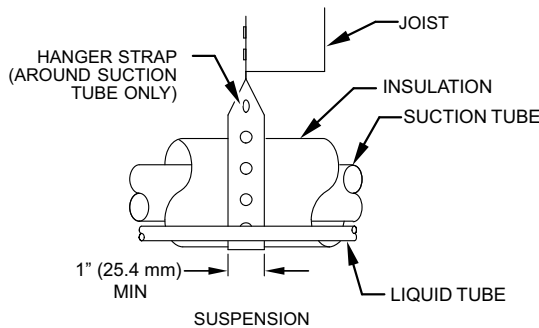

Fig. 1 – Connecting Tubing Installation
6. When passing refrigerant tubes through the wall, seal opening with RTV or other pliable silicon-based caulk. (See Fig. 1.)
8. Do not suspend refrigerant tubing from joists and studs with a rigid wire or strap which comes in direct contact with tubing (see Fig. 1.)
10. When necessary, use hanger straps which are 1 in. (25 mm) wide and conform to shape of tubing insulation. (See Fig. 1.)